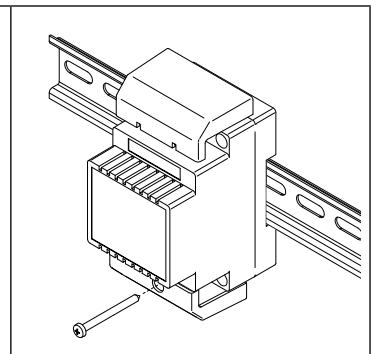

Fig. 6
5. When all connections are made replace and fix the terminal covers with the relevant screws (Fig. 6);